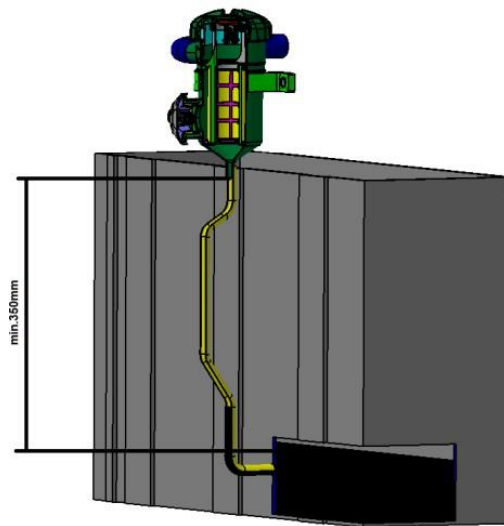

Fig. 2 Minimum distance from oil level to oil return fitting
The oil return fitting (6) is connected to the engine oil sump with a drain line. The connection to the engine oil sump is made below the minimum permissible oil level. For the ProVent® system to function properly, the minimum distance of the oil level from the oil return fitting (6) of the ProVent® housing must be at least 350 mm (see Fig. 2).
An optionally available non-return valve is required for this connection version. The oil return fitting (6) is connected to the non-return valve with a drain line. The non-return valve is then connected approx. 30 to 50 mm above the maximum oil level of the engine oil sump. For the ProVent® system to function properly, the minimum distance from the non-return valve to the oil return fitting (6) of the ProVent® housing must be at least 350 mm (see Fig. 2). Any angled positions which occur during mobile applications, which lead to a fluctuating oil level, must always be considered.